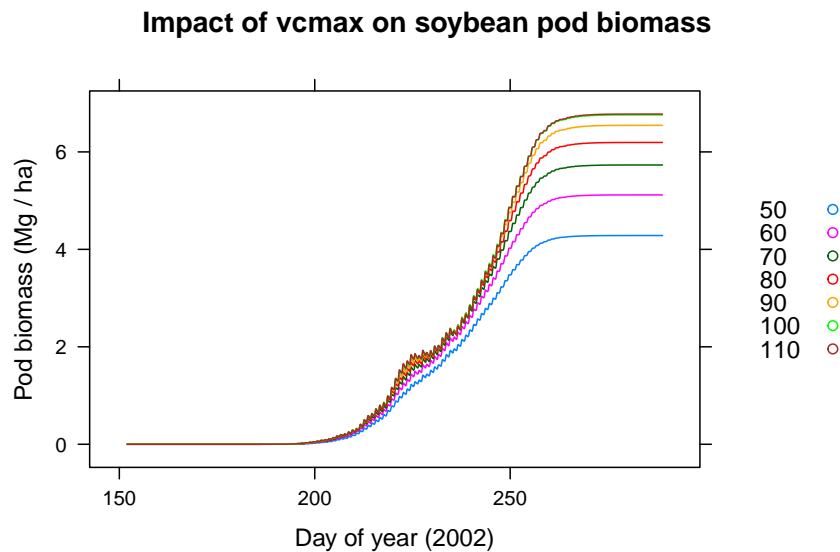

Figure 2: Soybean pod biomass throughout 2002 simulated with different values of $v_{c,max}$.
- Run the soybean simulation a few times with several different values of a key parameter (such as `vmax1`, which represents the maximum rate of carboxylation $v_{c,max}$) and compare plots of the time evolution of the `Grain` quantity (representing the pod mass per unit area) in each of the scenarios. (See Figure 2 for a possible solution.)